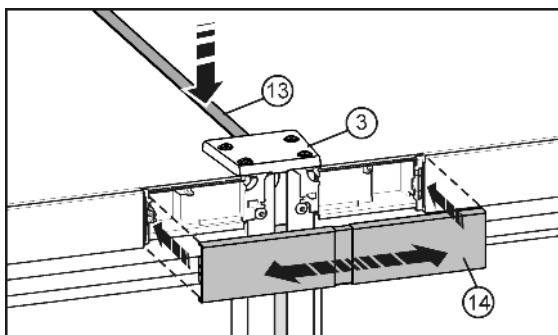

Fig. 10
- ▶ On the top of the appliances, press the short strip *Fig. 10 (13)* into the gap. Make sure the front edge of the strip is flush with the joining plate *Fig. 10 (3)*.
- ▶ Clip the cover *Fig. 10 (14)* over the gap between the two control panel covers. Make sure the side edges of the cover are flush with the control panel covers. To enable this, the cover is expandable.